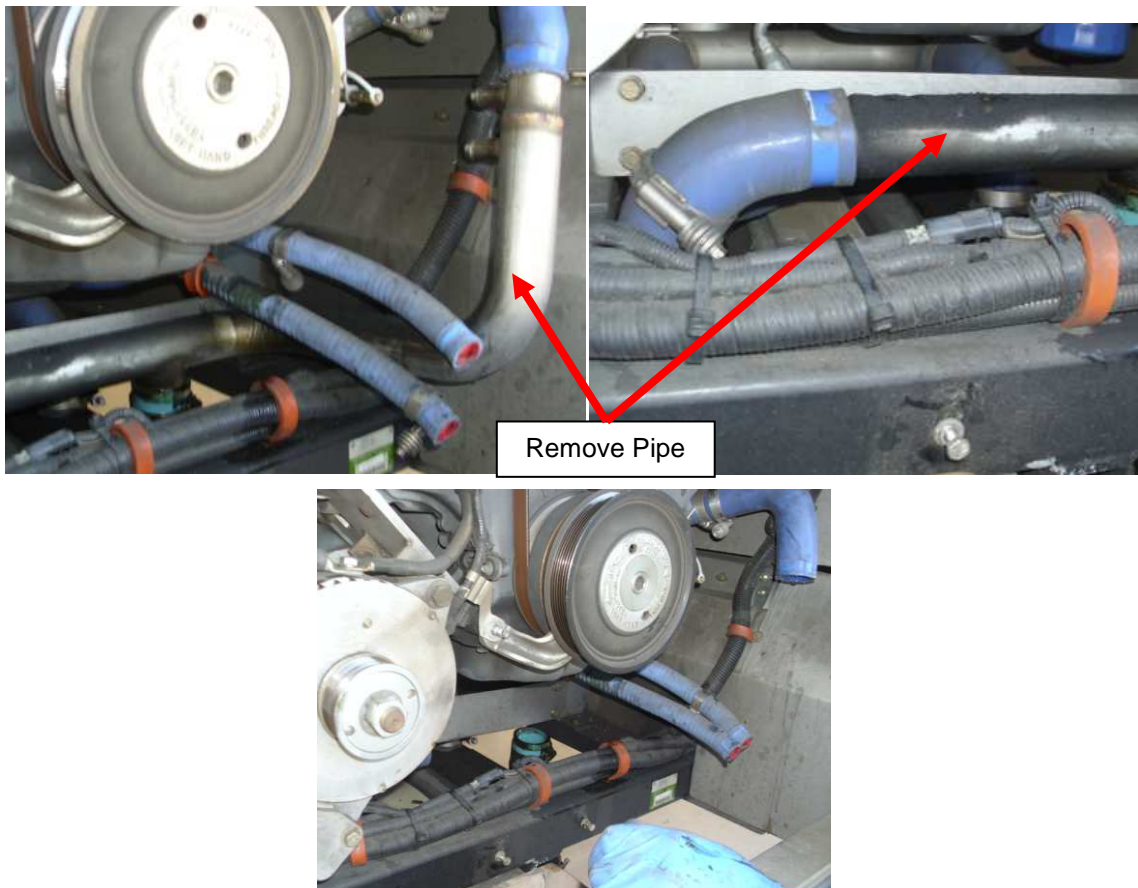

Figure 7: Brake Resistor Coolant Tube Removal
- b. Disconnect coolant hoses and remove Brake Resistor coolant tube. Fig 7